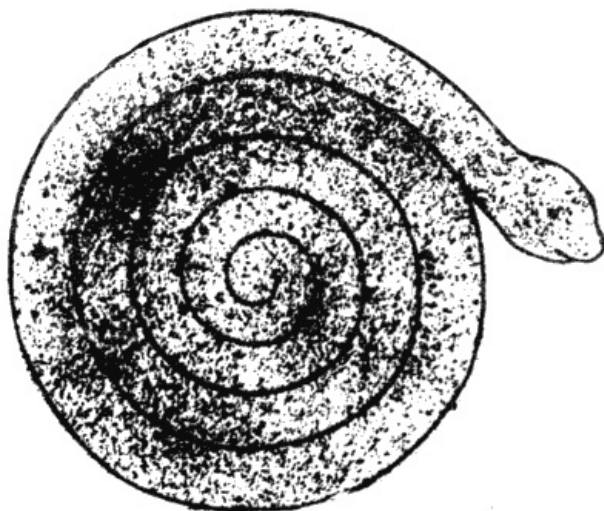
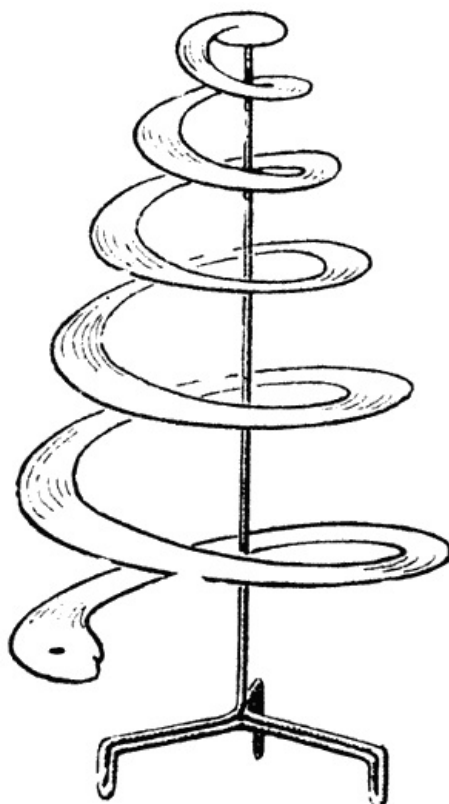

FIG. 78.
FIG. 79.
*A Rotating Snake.*—For this secure a clean flat piece of thin tin—the piece which the little patent cutter removes from the top of a round cigarette tin will do admirably—and, using a soft lead pencil, draw on it a spiral snake, such as is shown in Fig. 78. Now cut along the lines with a stout pair of scissors, or else with a sharp-pointed knife. Pull out the resultant spiral till it is stretched as in Fig. 79, and mount it by means of the tail on an upright piece of pointed stout wire. The serpent will rotate on this for a considerable time.